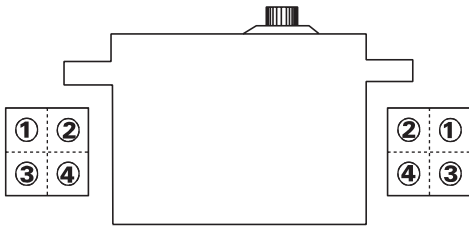

Figure C-3A
1. Use the tables in Figure C-3A and C-3B (Shown above) to determine how the servo mounting posts (24) should be attached to the servo (*not included*).